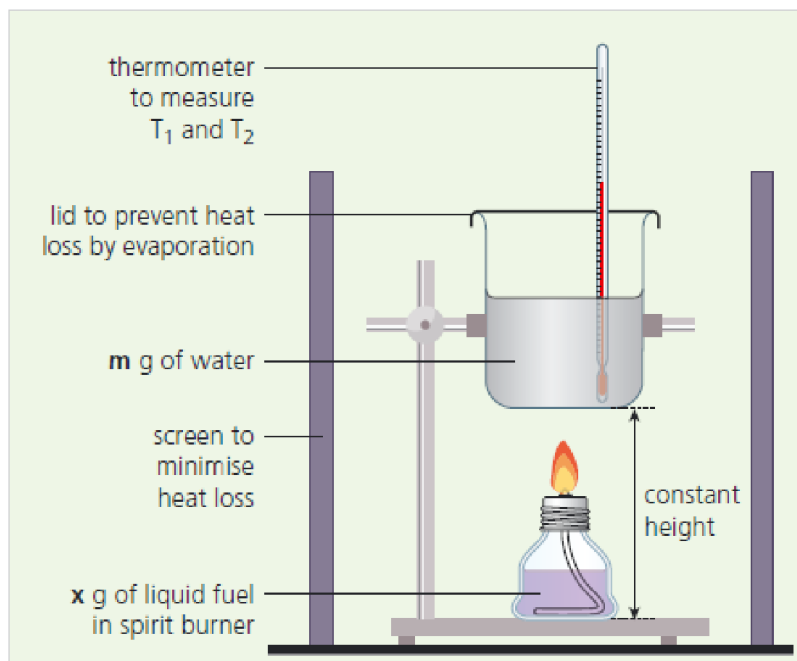

Figure 14.1: Determination of enthalpy change of combustion of ethanol
3. Set up the apparatus as indicated in the figure 14.1.